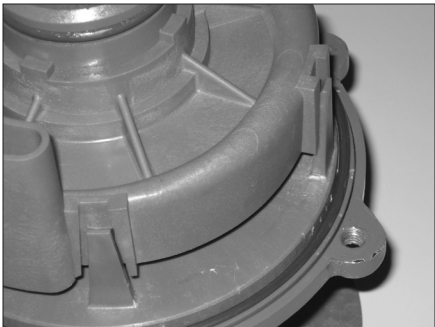

Figure 36
8. Install the inner volute (item 7) by lining up the prongs of the barrier with the channels in the inner volute. Press down evenly until the prongs snap onto the surface of the inner volute. See figures 36 and 37.